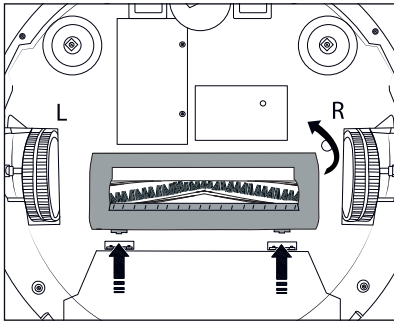

Fig. 14
- ◆ Press the two release buttons on the rotary brush cover **15** to release it. Remove the rotary brush cover **15** from the appliance (see Fig. 14).